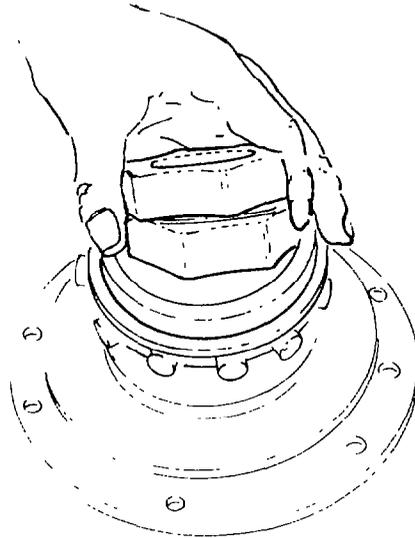

Fig. 343 — Installing Inner Cam
- c. Dip the inner cam in OEP-220 lubricant and install inside the cage (see fig. 343). Push all the wedges in until they contact the inner cam lobes. Set aside temporarily.